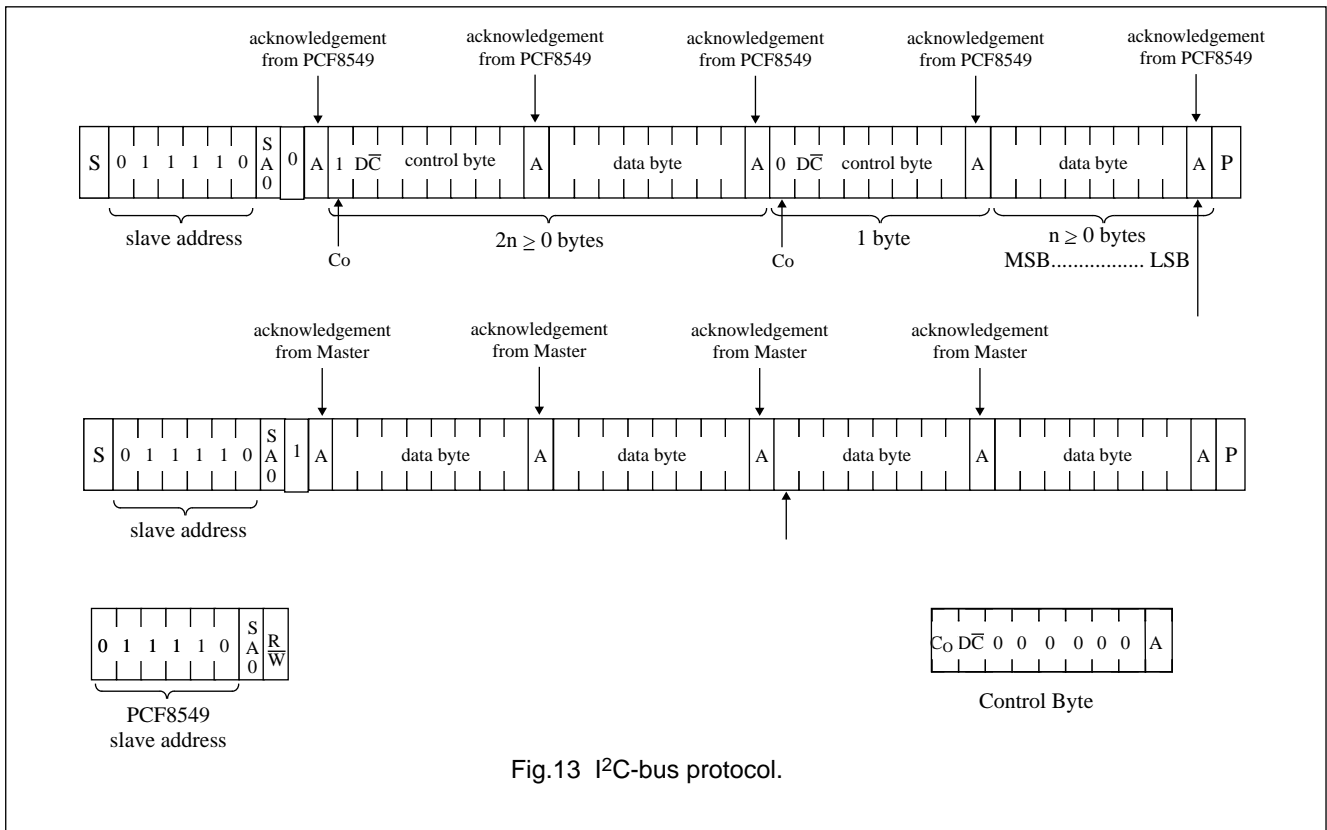

Fig.13 I²C-bus protocol.
The I²C-bus protocol is illustrated in Fig.13.
The sequence is initiated with a START condition (S) from the I²C-bus master which is followed by the slave address. All slaves with the corresponding address acknowledge in parallel, all the others will ignore the I²C-bus transfer. After acknowledgement, one or more command words follow which define the status of the addressed slaves. A command word consists of a control byte, which defines Co and D/C, plus a data byte (see Fig.13 and Table 1).